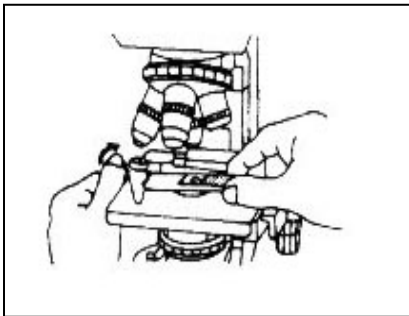

Fig. 4.2
- Place the specimen slide on the stage (Fig. 4.2).